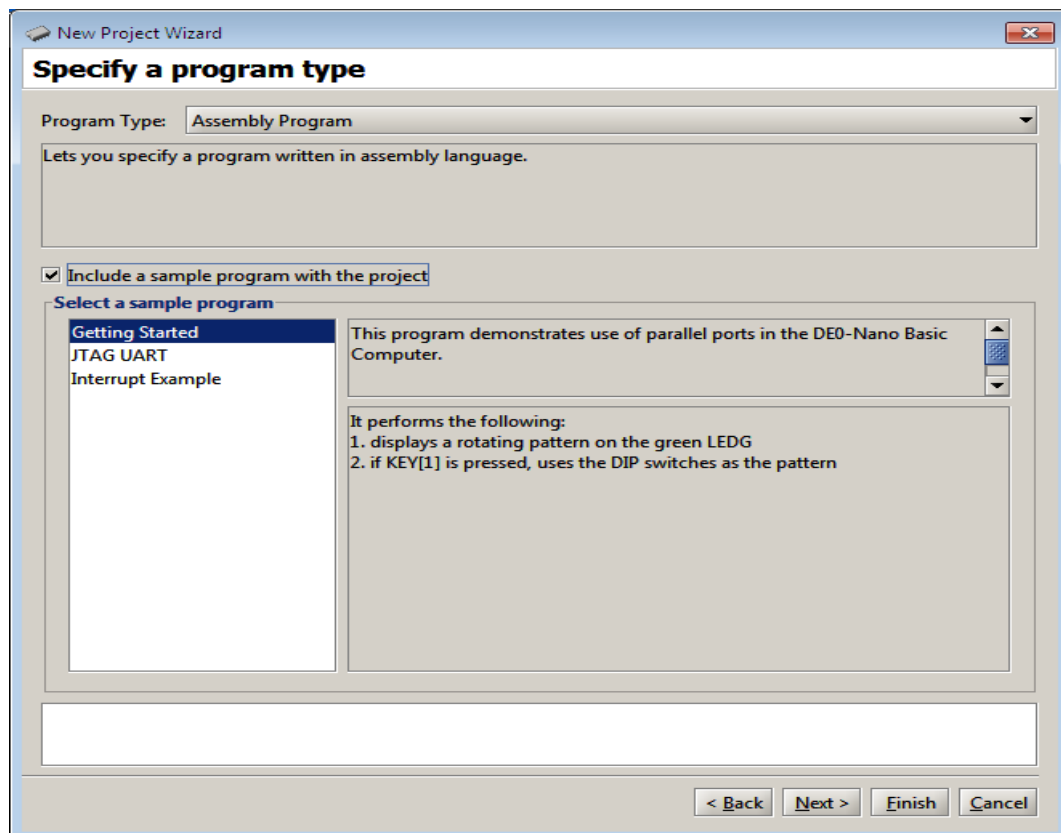
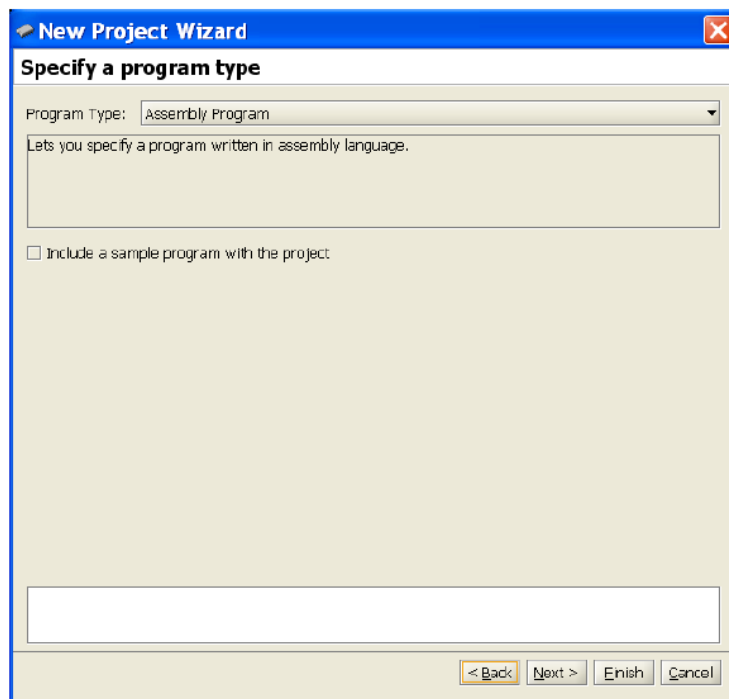

Figure 5: Selection of an application program.
Figure 12: Select an assembly language program.
4. In the window in Figure 5 you can specify the type of application programs that you wish to run. They can be written in either the Nios II assembly language or the C programming language. Specify that an assembly language program will be used. The Altera Monitor Program package contains several sample programs. Select the box: **Include a sample program with the project**. Then, choose the *Getting Started* program, as indicated in Figure 5, and click **Next**.
2. Use the Altera Monitor Program to create a new project in this directory. We have chosen the project name `part2`. When you reach the window in Figure 5 choose *Assembly Program* but do not select a sample program, as shown in Figure 12. Click **Next**.